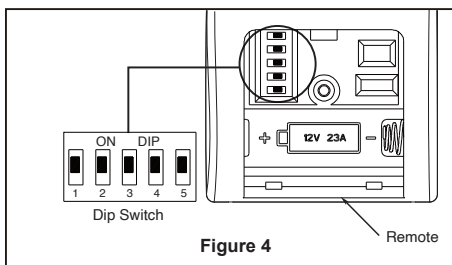

Figure 4
- ☐ 2. Remove the four screws from the ceiling bracket assembly and retain for later. (Figure 4)
- ☐ 4. If installing the light kit, skip this step. Assemble the light kit wire cover to the light kit using the two key slots. Replace the removed screw and secure all three screws. (Figure 4)
- ☐ 4. To set the remote code in the same positions as the receiver, use a small screwdriver or ball point pen (neither included) to slide dip switches firmly up or down. (Figure 4)